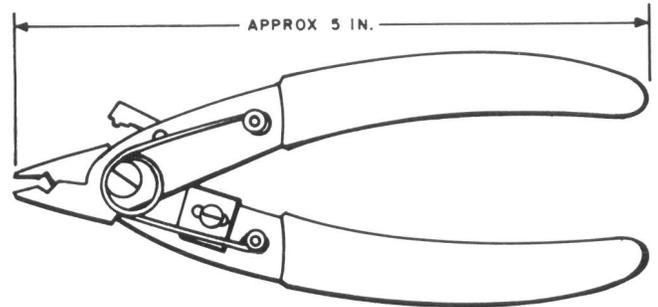

Fig. 2—R-3088 Plier-Type Wire Stripper Tool
2.02 **R-3088:** The R-3088 tool (Fig. 2) is a plier-type wire stripper for removing insulation used on BU-type wire.